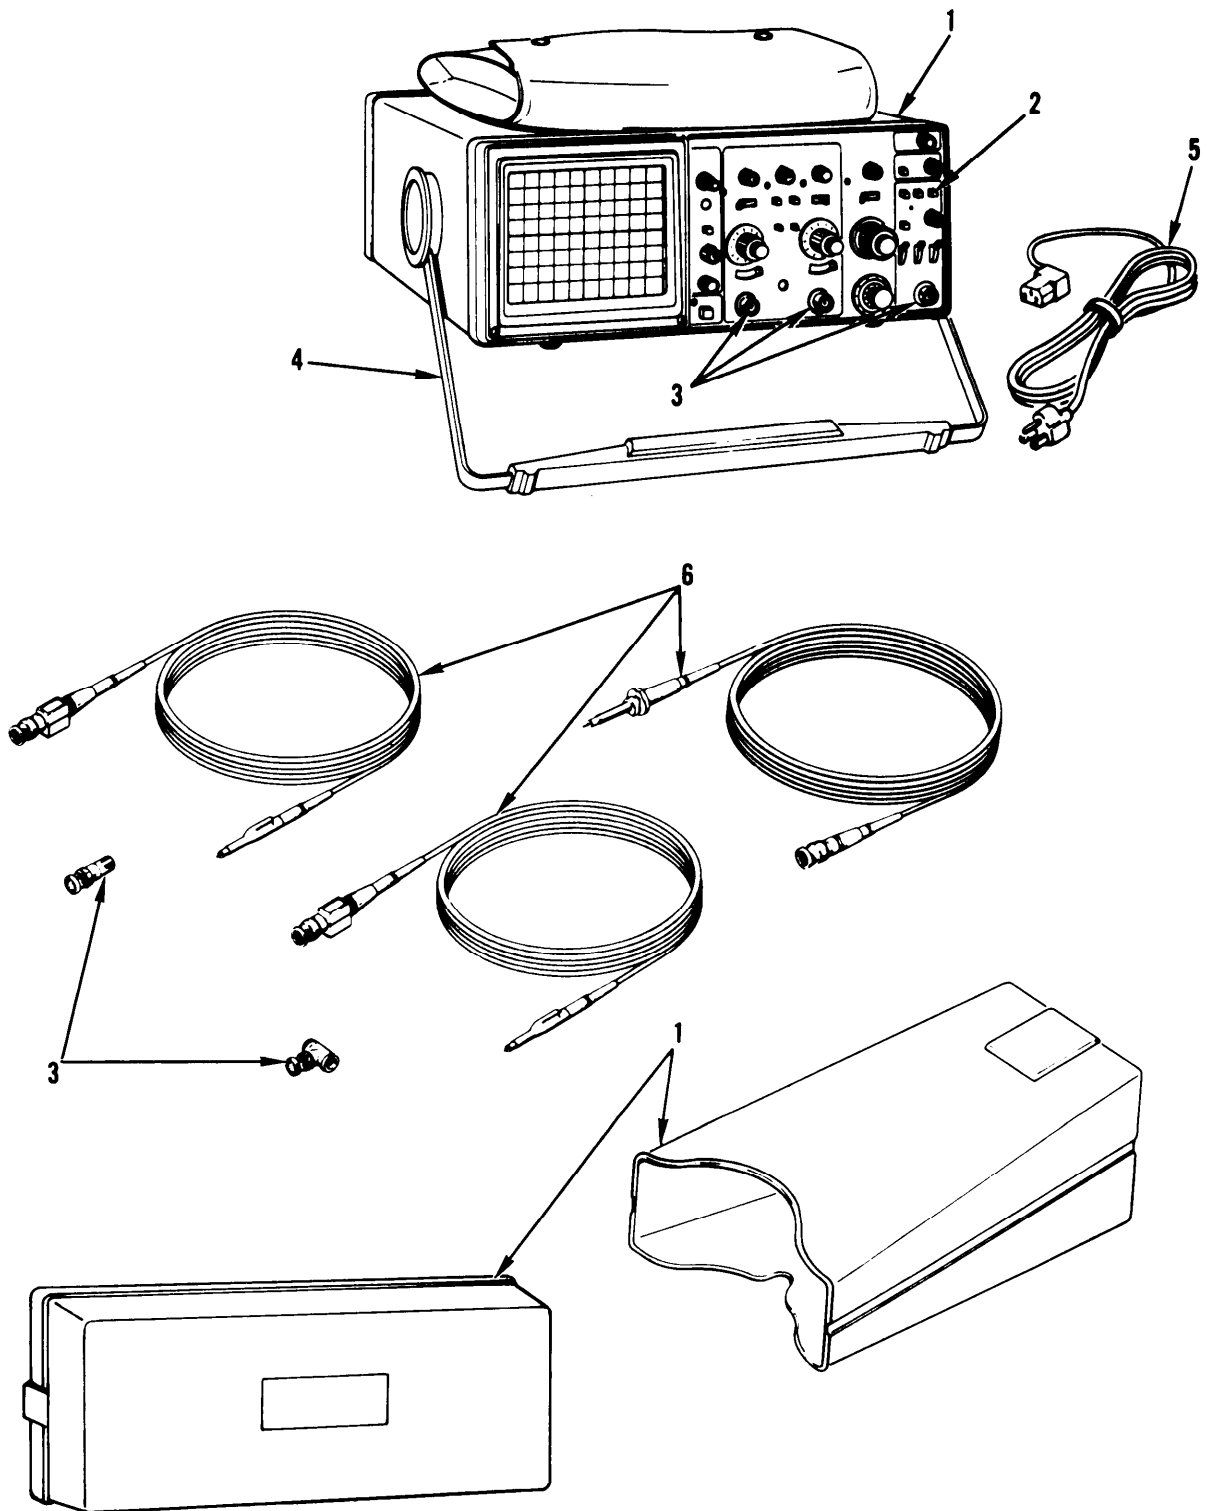

Figure 2-1. Oscilloscope PMCS Location Diagram
- a. **Item Number Column.** The numbers appearing in this column are in the order the work should be performed. The numbers are keyed to fig. 2-1 to identify work locations. This column shall also be used as a source of item numbers for the TM Number Column on DA Form 2404 (Equipment Inspection and Maintenance Worksheet) in recording results of PMCS.
- b. **Interval Column.** This column indicates whether PMCS is performed before operation (B), during operation (D), after operation (A), or weekly (W).